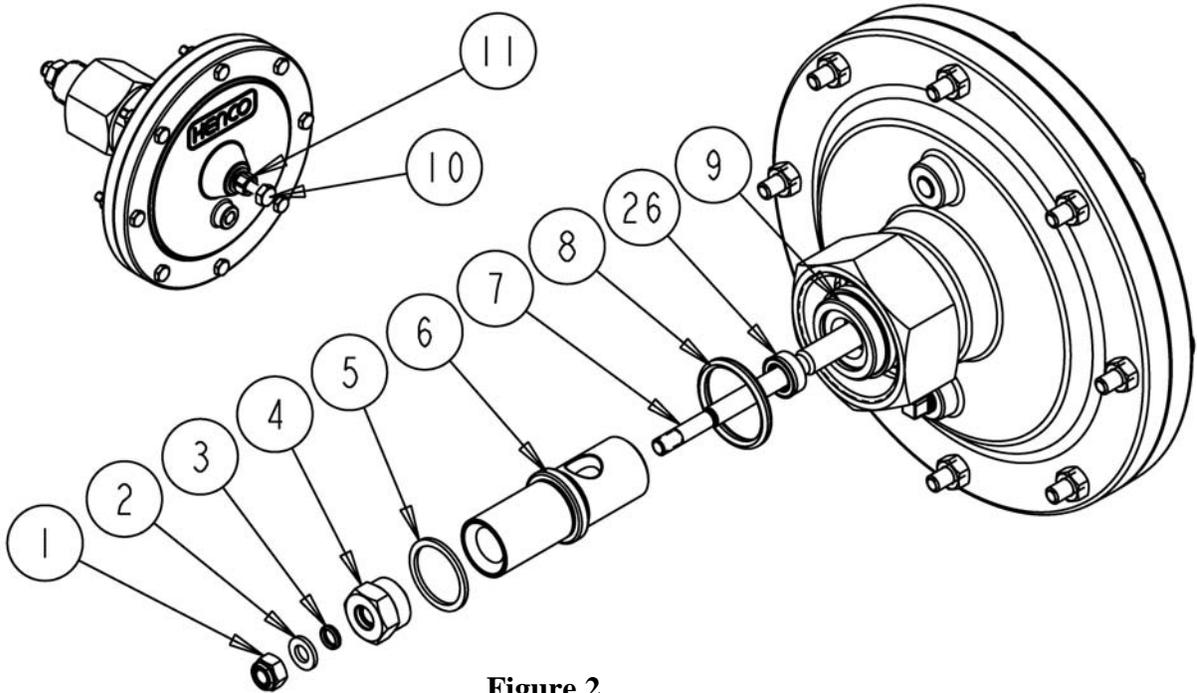

Figure 2
6. Loosen the jam nut (#11) and spin it all the way to the top of the maintenance bolt (#10). (See Figure 2)
9. With the locknut removed, remove the washer (#2), o-ring (3), trim plug (#4), crush washer (#5) and trim seat (#6). Also remove the o-ring (#8) from the spud (#9) under the union nut. (Note: if fluid was leaking from weep hole, then replace packing (#26)).